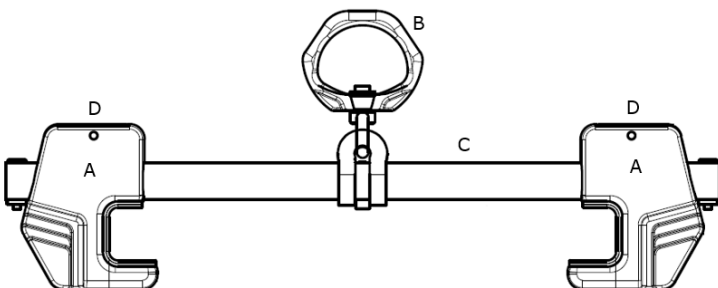

Figure 1: Key components of beam anchor.
4.1 KEY COMPONENTS: Refer to Figure 1 for identification of key components of HG-1540CBA beam anchor.